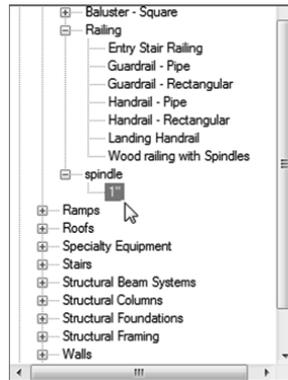

FIGURE 10.59: Finding the Spindle : 1" family to access the material
1. In the Project Browser, the Spindle category is just below Railing, as shown in Figure 10.59. Expand Spindle to expose the 1" (25 mm) family.